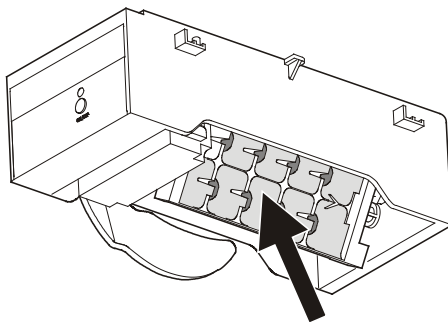

Figure 24
- After this the Ice Maker tray (**Figure 24**) must be emptied. Refer to chapter “Ice Maker at vacations”.
In case of longer vacations, the ice maker tray (arrow in **Figure 24**) should be emptied.
By setting the ice maker into the vacation state, the tray will rotate down and no water remains in the tray (**Figure 24**).
When the interior temperature appears in the display, the tray is in the down position (**Figure 24**) and the ice maker is turned off automatically.